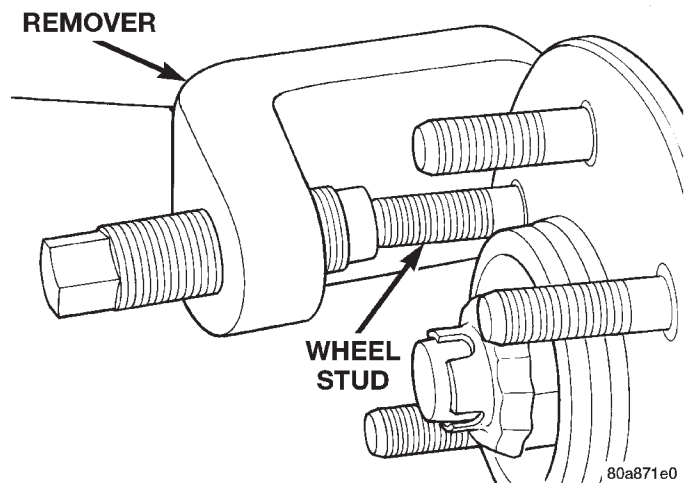

Fig. 10 Wheel Stud Removal
- (1) Raise and support vehicle.
- (2) Remove wheel and tire assembly.
- (3) Remove brake caliper and rotor, refer to Group 5 Brakes for procedure.
- (4) Remove stud from hub with Remover C-4150A (Fig. 10).